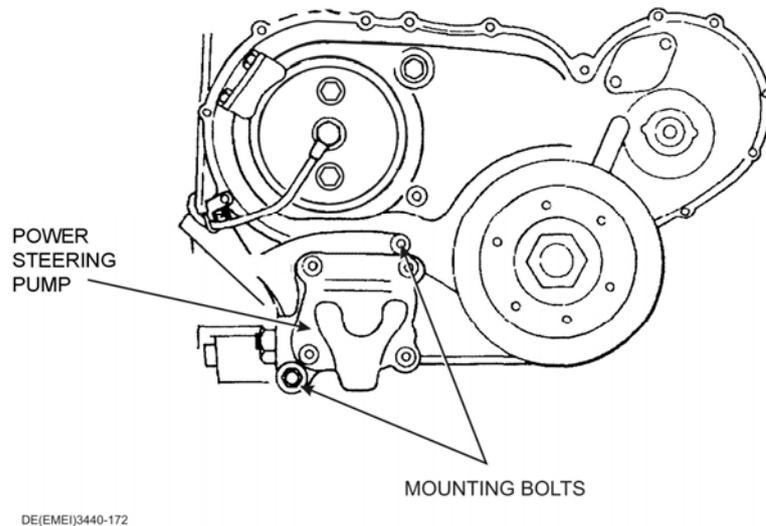

Figure 171 Power Steering Pump Removal
- f. Remove the bolts securing the power steering pump to the timing gear and remove the pump (Figure 171).